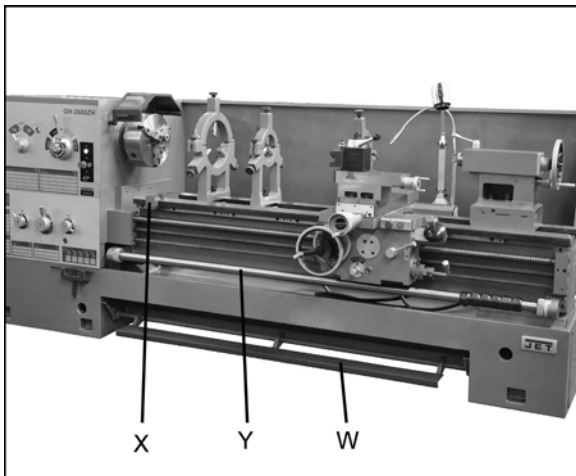

Figure 27 – Other controls
19. **Foot Brake (W, Figure 27):** For emergency shutdown of all lathe functions. The connecting rod mechanism is in the bed stand, and activates a brake strap at the main motor. (**Caution:** Lathe still has power.)
20. **Manual Carriage Stop (X, Figure 27):** Can be used during manual feed operation to limit carriage travel. *NOTE: It is not intended to stop the carriage during automatic feed.* The carriage stop can be repositioned along the bed by loosening the two screws underneath the stop.
21. **Travel Setting Rod (Y, Figure 27):** Up to six pre-set configurations are possible for repetitive operations, without having to reposition the stops each time. Use the knurled knob at the right end of the rod to set the rod at one of six positions shown on the dial. Then move the desired number of eccentric stops into position for that particular operation and tighten them securely to the rod with the screws beneath them. When the apron trip lever contacts a stop, the clutch will disengage.